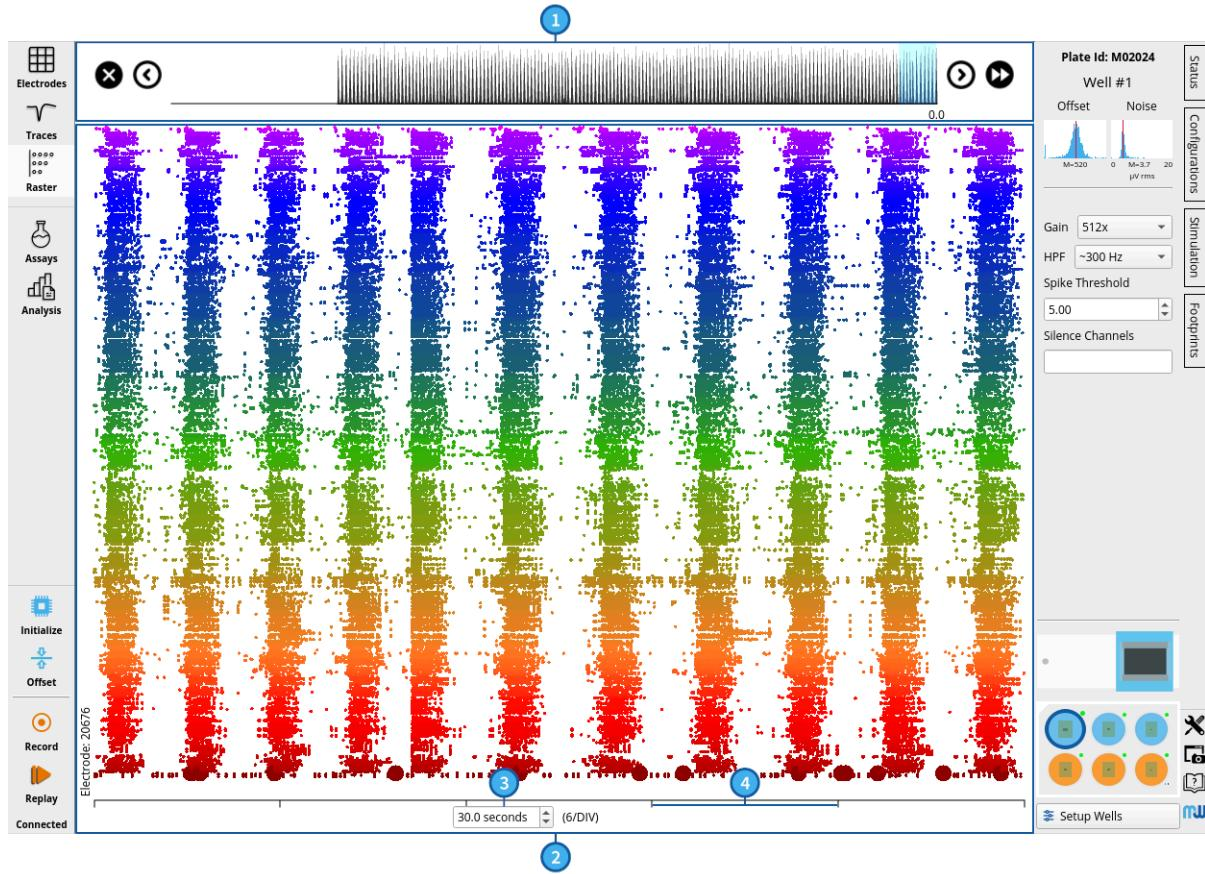

Figure 3.9. Overview of the Raster View
Figure 3.9 provides an overview of the Raster View:
(4) Temporal divisions
The X-axis of the raster plot window is divided into five sections to better assess the temporal characteristics of the activity. As shown in Figure 3.9, the number of seconds per division (DIV) is indicated to the right of the window time (3).